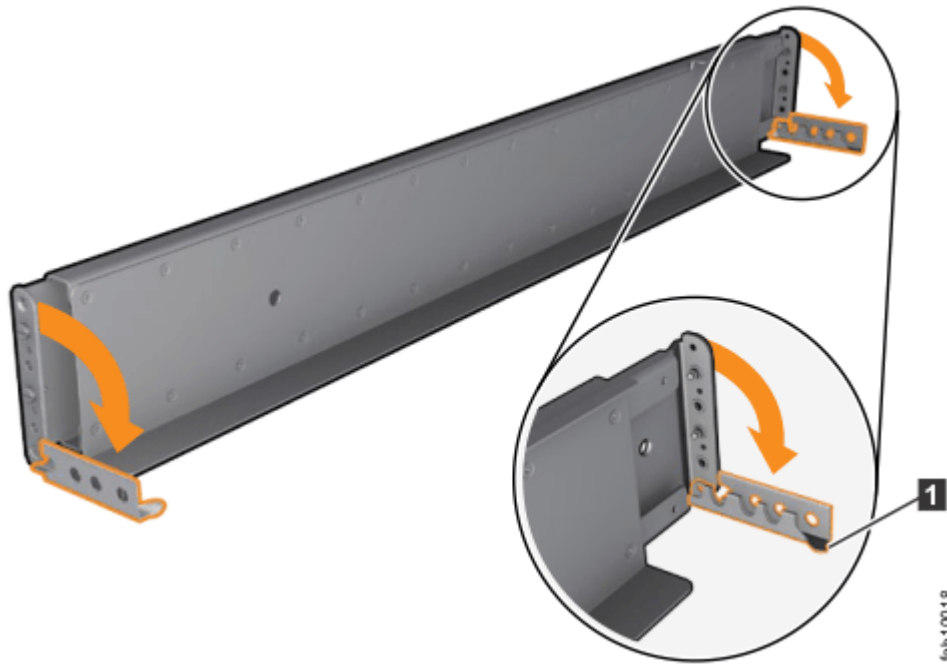

Figure 20. Opening the hinge brackets
4. At each end of the rail, grasp the tab **1** and pull *firmly* to open the hinge bracket. (See Figure 20 on page 46.)